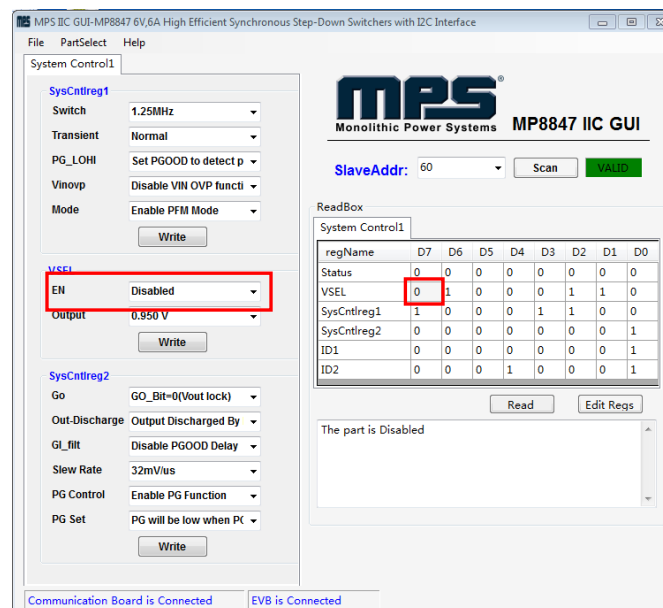

Figure 10: Refer to Datasheet to Translate 0's and 1's
- Click the **Read** button to update the values. The changed information of the item will appear on the right side (see Figure 10).